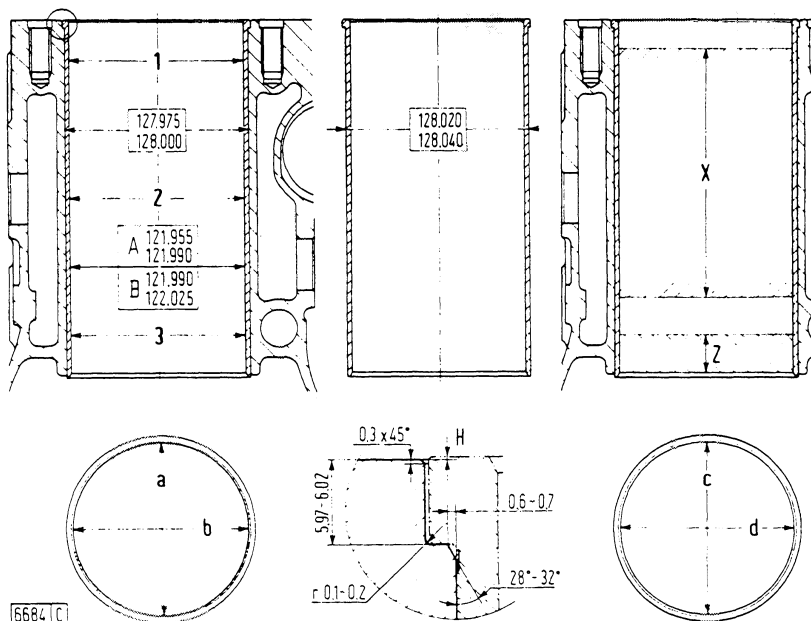

Fig. 3 - Cylinder sleeve and seat standard dimensions and wear data.
The pre-finished cylinder sleeves are heat treated before being pressed into the block. After installation, sleeves are classified into grades **A** and **B** (Figure 3) and require no further machining.
- Check sleeve I.D. over the working length (**X**, fig. 3) swept by the piston rings.
- After installation, check sleeve I.D. by means of a suitable dial gauge. Zero the gauge and take readings in planes **a** and **b** (fig. 3) at points **1**, **2** and **3**.
- Where necessary, stamp the grade identification letters to which pistons must be matched (see para. 4.3) on the cylinder block (see fig. 3).
If in the course of overhaul block bore out-of-round is found to be in excess of 0.1 mm or 0.004 in, the bores should be opened out by 0.25 mm or 0.010 in (see data table, section 11). After opening out the block, re-cut the lead-in chamfer to conform with the dimensions given in fig. 3.
If the block top needs grinding (which should be done with the sleeves removed), also machine sleeve counterbore and lead-in chamfer to the dimensions shown in insert, fig. 3. Dimensions (**H**) will thus be maintained within tolerances when sleeves are installed.